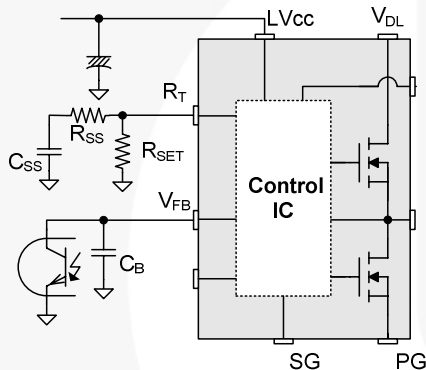

Figure 24. External Soft-Start Circuit
4. Soft-Start: At startup, the duty cycle starts increasing slowly to establish the correct working conditions for transformers, inductors, and capacitors. The voltage on the output capacitors is progressively increased to smoothly establish the required output voltage. Soft-start time is internally implemented for 15ms (when the operating frequency is set to 100kHz.) In addition, to help the soft-start operation, a capacitor and a resistor would be connected on the R_T pin externally, as shown in Figure 24. Before the power supply is powered on, the capacitor C_{SS} remains fully discharged. After power-on, C_{SS} becomes charged progressively by the current